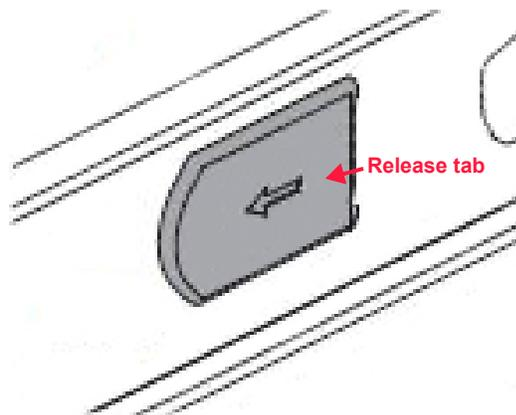

Figure 4.12 Rail release tab
2. Pull the release tab on the inner chassis member rail forward as demonstrated in Figure 4.12 on page 38.
5. Press the release tab shown in Figure 4.12 on page 38 and push the enclosure fully into the rack.